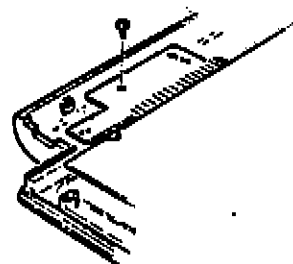

Figure 3-25. LED Assembly Screw
3. Remove the screw securing the LED assembly to the front cover, as shown in Figure 3-25.